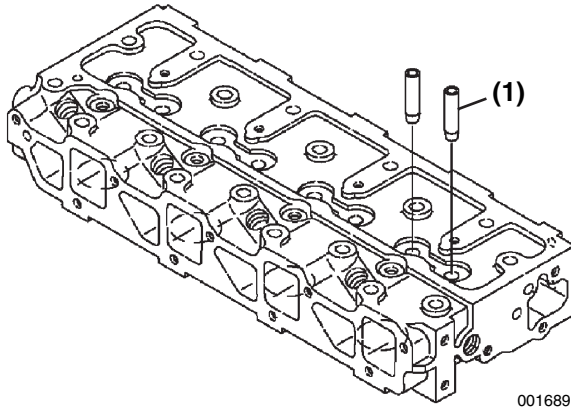

Figure 6-12
1. If the valve guides were not within specifications, use a drift pin and hammer to drive the valve guides (**Figure 6-12, (1)**) out of the cylinder head.